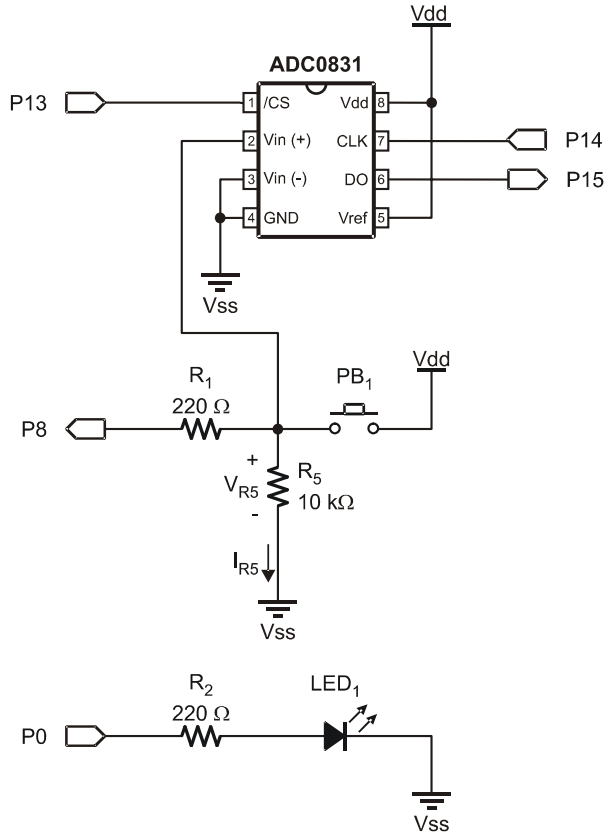

Figure 3-8
- √ Place a 10 k Ω resistor from the P8 side of the pushbutton to Vss as shown in Figure 3-8.